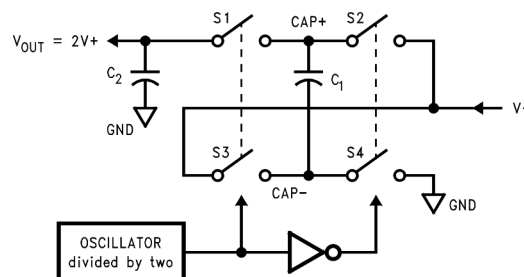

Figure 10. Voltage Doubling Principle
The LM2665 contains four large CMOS switches which are switched in a sequence to double the input supply voltage. Energy transfer and storage are provided by external capacitors. Figure 10 illustrates the voltage conversion scheme. When  $S_2$  and  $S_4$  are closed,  $C_1$  charges to the supply voltage  $V_+$ . During this time interval, switches  $S_1$  and  $S_3$  are open. In the next time interval,  $S_2$  and  $S_4$  are open; at the same time,  $S_1$  and  $S_3$  are closed, the sum of the input voltage  $V_+$  and the voltage across  $C_1$  gives the  $2 \cdot V_+$  output voltage when there is no load. The output voltage drop when a load is added is determined by the parasitic resistance ( $R_{DS(on)}$ ) of the MOSFET switches and the ESR of the capacitors) and the charge transfer loss between capacitors. Details are discussed in Application and Implementation.
- $R_{SW}$  is the sum of the ON resistance of the internal MOSFET switches shown in Figure 10. (1)